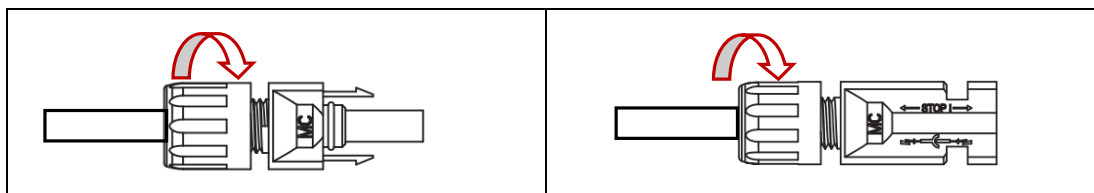

Fig. 17
2. Loosen the terminal cover and pass the cable through the terminal cover. Insert the tube core into the wiring slot until sound indicates proper wiring. Tighten the terminal cover (Fig. 17)